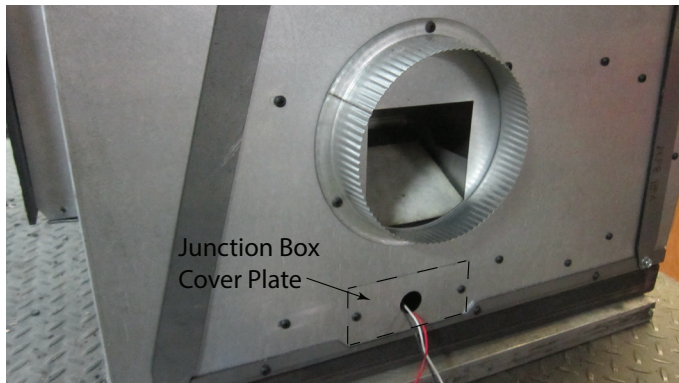

Figure 4.1 Junction Box Cover Plate
- Remove junction box cover plate on the bottom right side of the fireplace to access the outlet wires. See Figure 4.1.